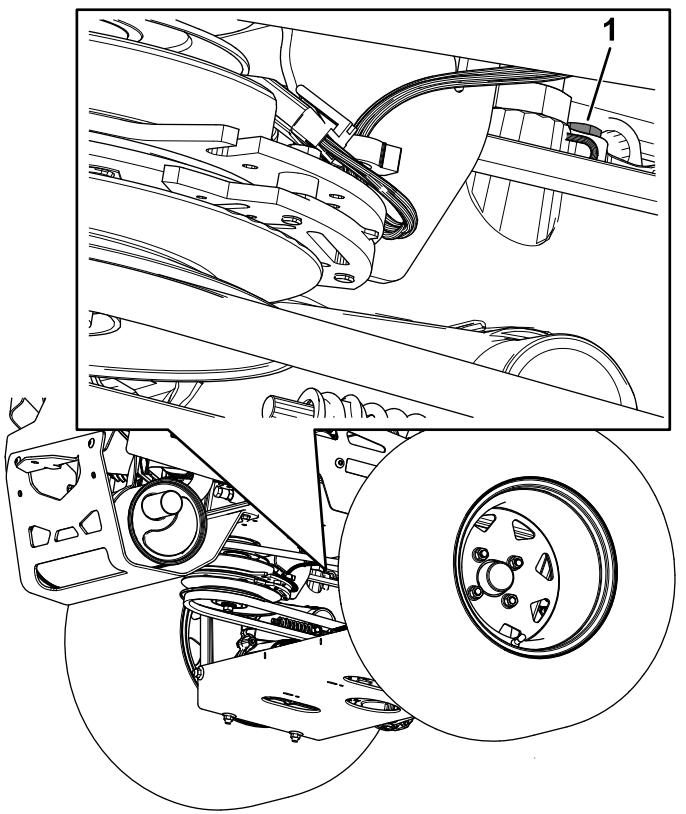

Figure 81
- For ZT 5400 Hydros, use a 7/16-inch wrench to access the vent plug from underneath the machine (Figure 81).